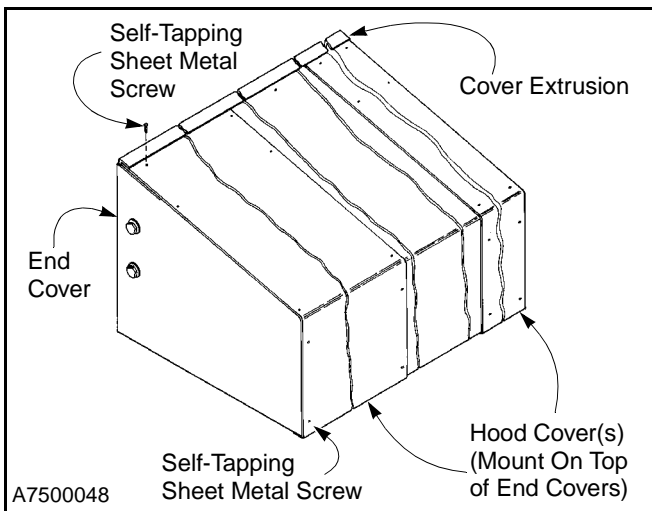

Figure 47
3. Insert the back edge of the hood cover(s) into the lip of the cover extrusion. Then secure the cover(s) to the end covers and extrusion using #12 x 3/4-in. self-tapping sheet metal screws. (See Figure 47.)